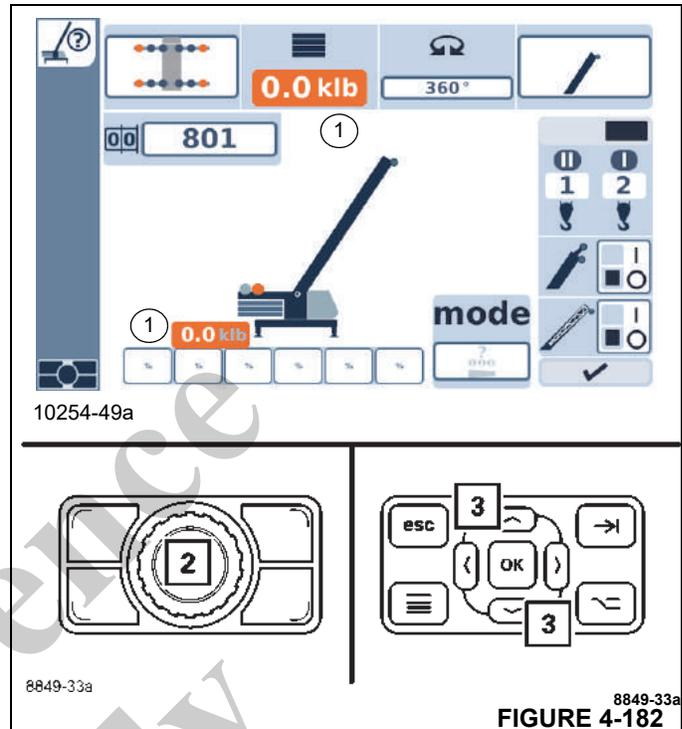

FIGURE 4-182
- Select and confirm the symbol (1, Figure 4-182).